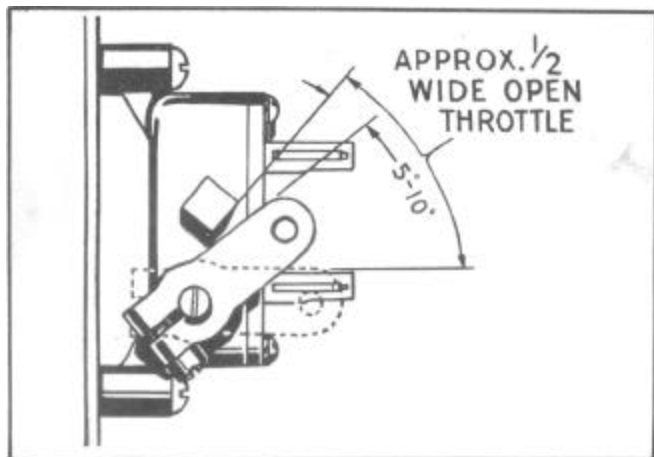

Figure 12--Accelerator Switch
The dash accelerator switch, Fig. 12, contains two sets of breaker points which are both operated from the same lever. When the lever is in the closed throttle position both sets of breaker points are closed and there is a circuit to ground through the solenoid, either through the (R W) wire to the governor or through the (Y) wire to